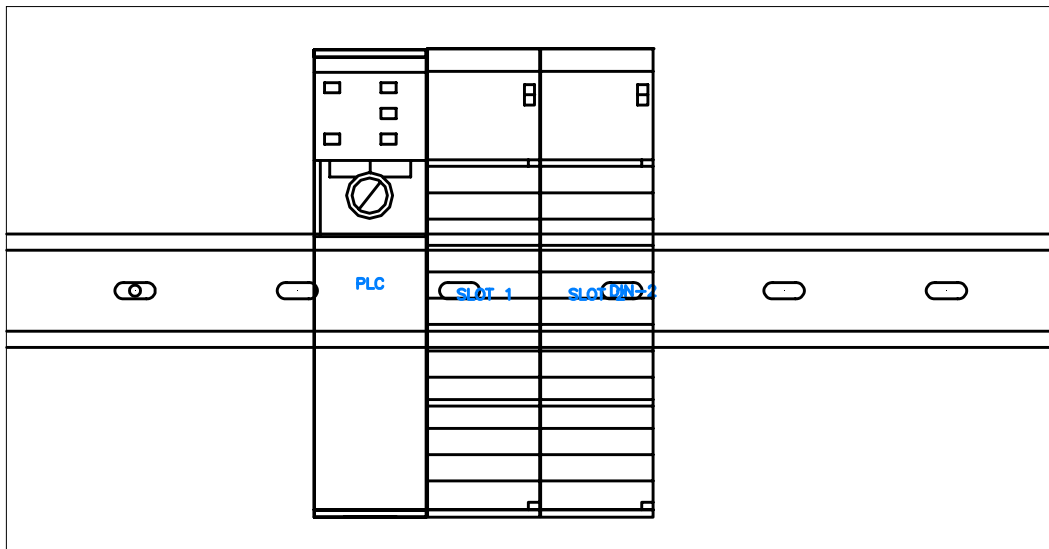

Figure P2-10 The SLOT 2 inserted in the drawing
28. Choose the **OK** button in this dialog box; the SLOT 2 is inserted in the drawing, as shown in Figure P2-10.